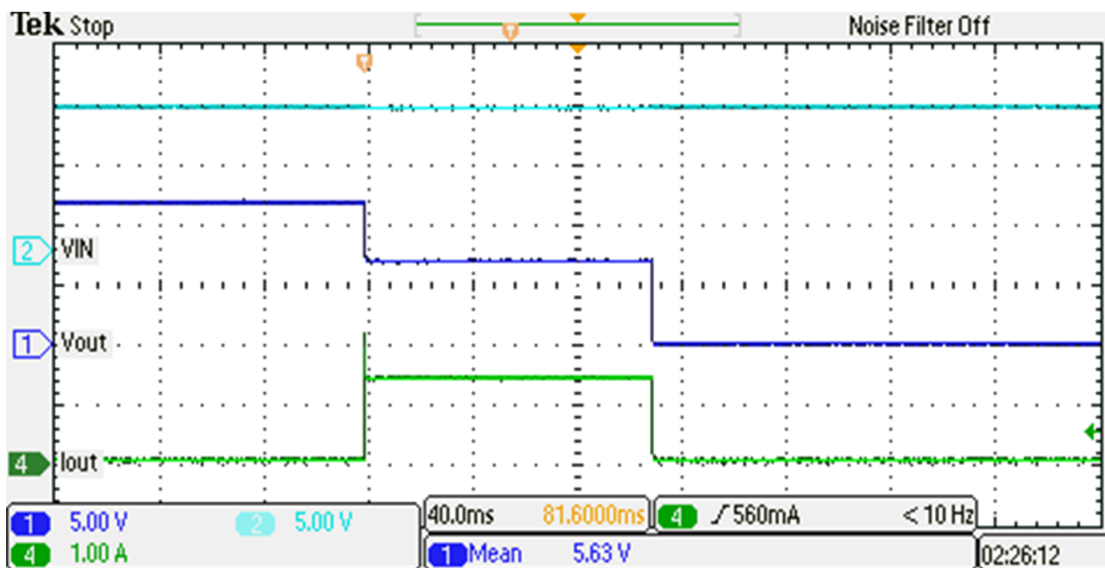

Figure 4. J7 = No Jumper Current Limit (1.5A) Test with Latch (CH2)
- Set the output load at $5.0\ \Omega \pm 0.5\ \Omega$ on CH2 and then enable the load. Turn on the VIN2 power supply and verify that input/output current is limited as per the setting in Table 9. Verify the device is in latched-off mode and that the FLTb2 RED LED (D7) turns ON as shown in Figure 4. The level of the current pulse should match with the load current limit (based on the respective jumper setting) as shown in Table 9.